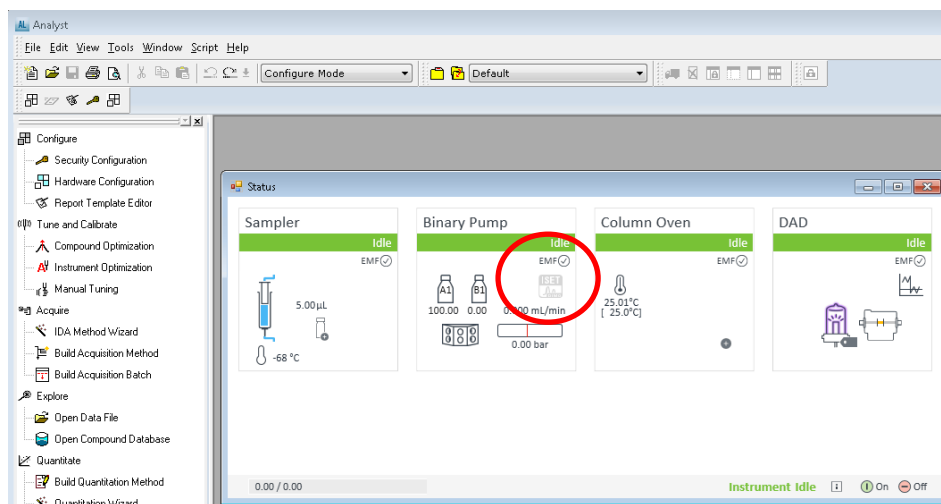

Figure 9 ISET in LC Status Dashboard in Analyst – ISET installed, but not enabled for current method
- If ISET is available, but not enabled - the ISET pictogram in LC status dashboard is grey (see Figure 9 on page 10)